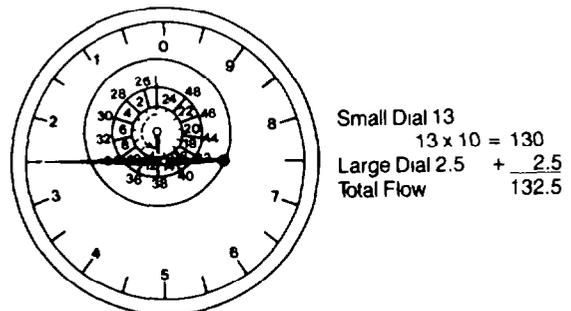

Figure 127 — Dial Indicator — Example of Lower Reading
- n. If the small hand on the test stands dial indicator has made less than one revolution (see Fig. 127), use the inner ring figures (2-24) and multiply by ten, then add the reading of the large hand.